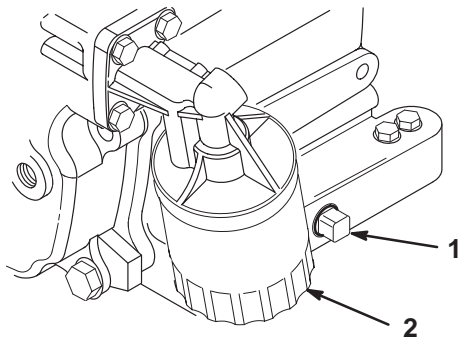

Figure 20
5. Remove the drain plug (Fig. 20) and let the oil flow into a drain pan. When the oil drains completely, install the drain plug.
2. Remove the existing oil filter (Fig. 20). Apply a light coat of clean oil to the new filter gasket.